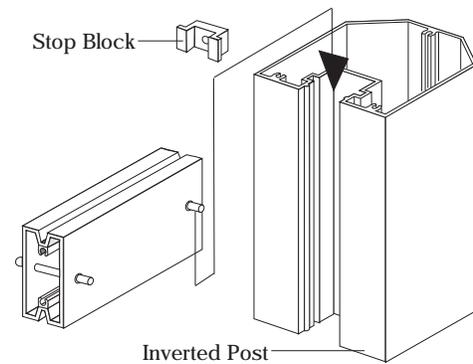

Fig. 2
2. Slide Bars and/or panels into place, aligning retainer (roll) pins to post pocket during the process. (Fig. 2)